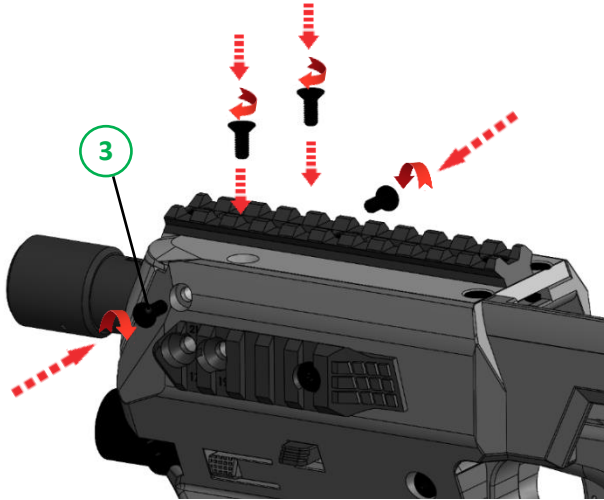
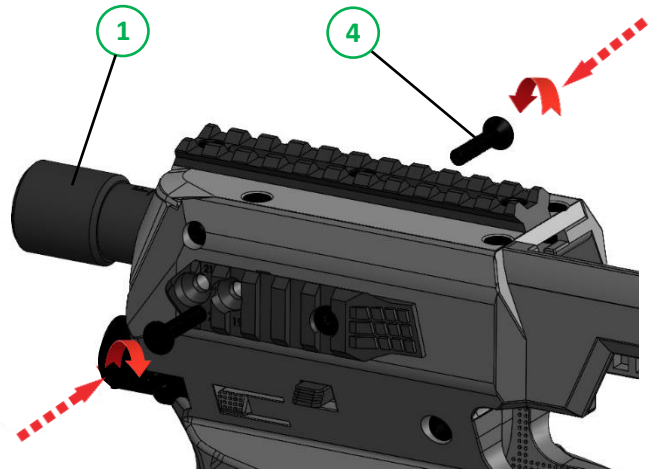

FIGURE 56
FIGURE 57
First screw in the front aluminum tube housing screw (3) (x2) and then the top front picatinny rail screw (x2) using a 2.5mm Allen wrench (FIGURE 56). Make sure that the front aluminum tube (1) is at the right position (See **SECTION 3, STEP 1**) and then screw in the front aluminum tube screw (4) (x2) using a 3mm Allen wrench (FIGURE 57).